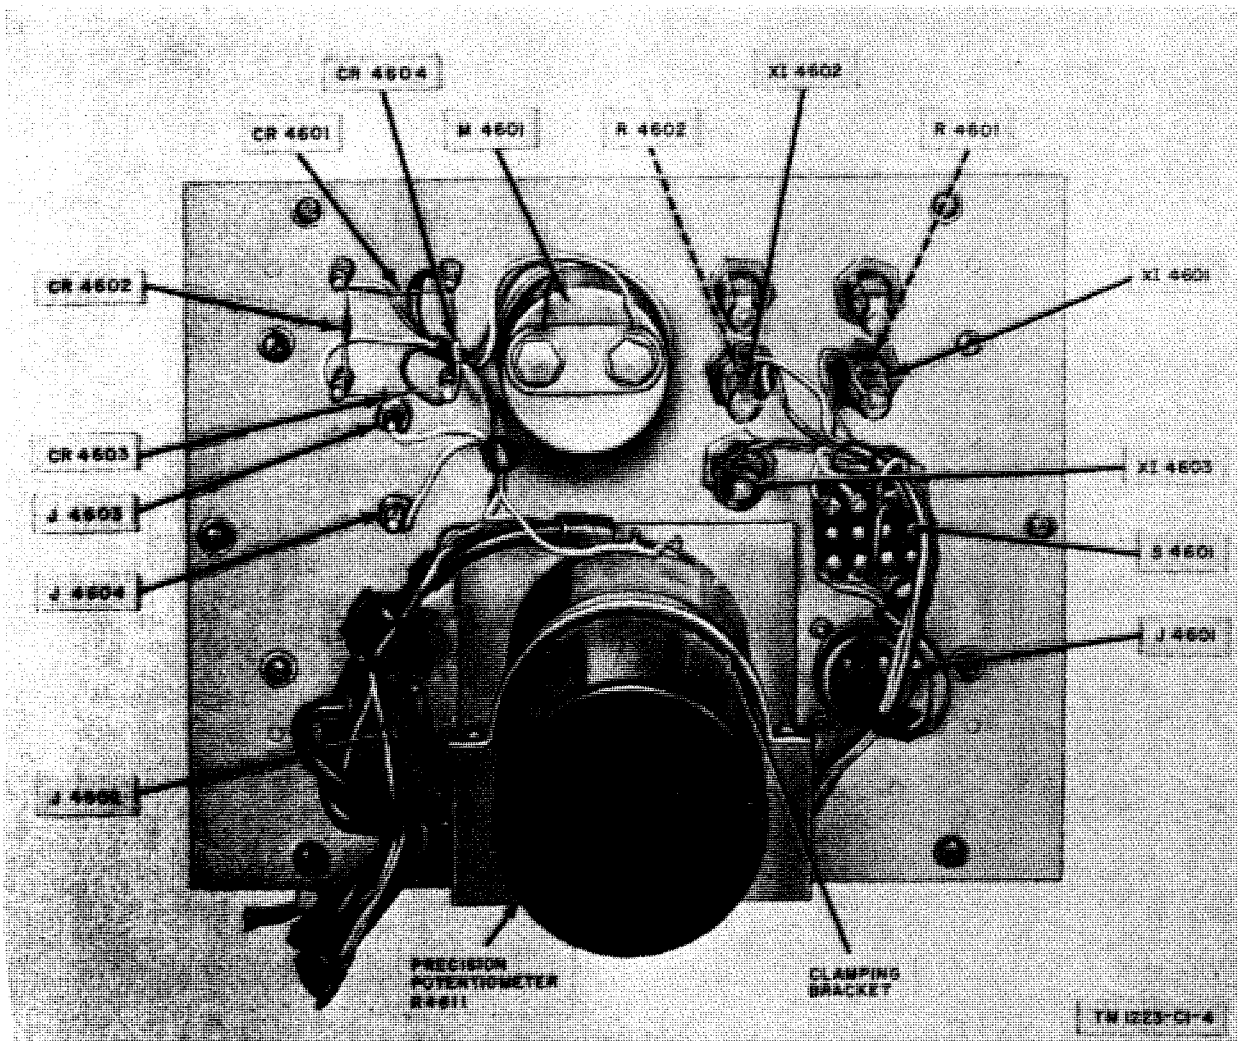

Figure 15.1. Rear view of front panel (Order No. 4438-PP-60).
- (5) Use the Allen wrench to loosen the two setscrews that hold the outer dial to the potentiometer shaft. Remove the outer dial together with the split steel bushing. The dial is fitted over the steel bushing.
- (6) Unscrew the hexagonal nut and remove the nut and washer.
- (7) Identify and unsolder the three wires attached to the terminals of the potentiometer.
- (8) Remove the potentiometer clamping bracket (fig. 15.1) by loosening the two Phillips-head screws that hold it, and withdraw the precision potentiometer from the panel.
hole (fig. 15.1), orienting the casing so that the three terminals are on top for easy access.